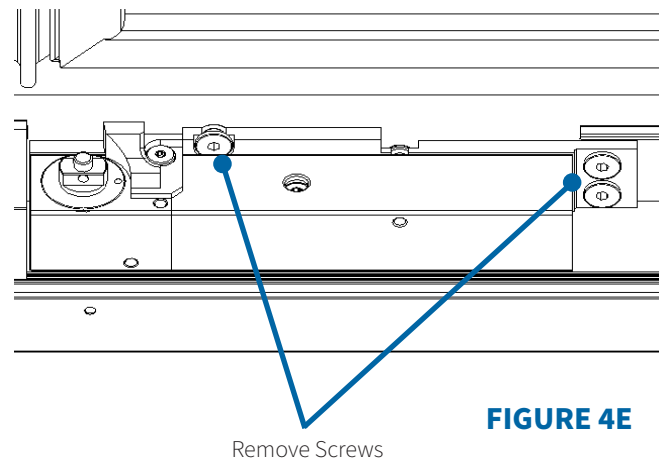

FIGURE 4E
3. Once available, remove the screws holding the hinge in place as per Figure 4E.